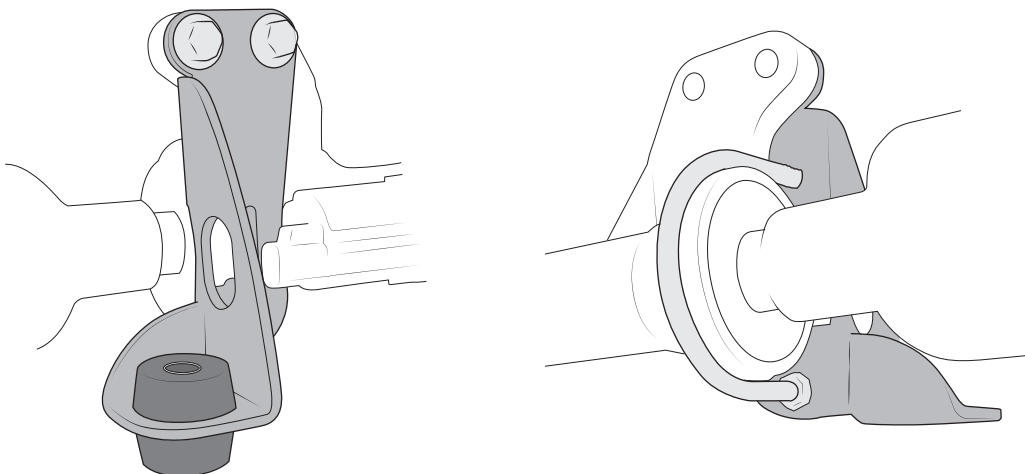

Figure 11
- C. Install passenger bracket using M12x45mm bolts and flange nuts torqued to 75 ft-lb, then install u-bolt as shown. Thread one 3/8" nut onto u-bolt before installing it onto differential and bracket. Install u-bolt to differential and bracket, then install two 3/8" non-flange nuts to outside face, and tighten to 22 ft-lb, being sure that the rear nut is still loose. Once front nuts are tight, tighten rear nut against bracket (fig. 11).